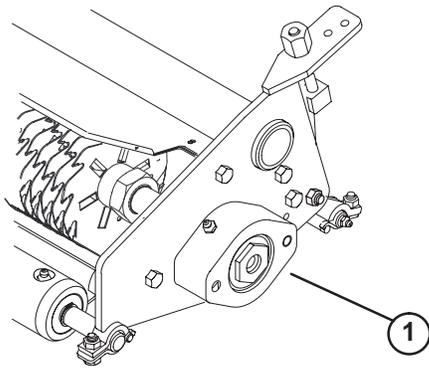

Figure 11
1. Loosen (2) screws and washers securing counterweight to end of dethatcher unit. Remove counterweight.
2. Loosen (2) screws securing reel motor to other end of dethatcher unit. Remove reel motor.
3. Remove (2) capscrews and lockwashers securing the reel bearing housings to each end of dethatcher unit (Fig. 11).